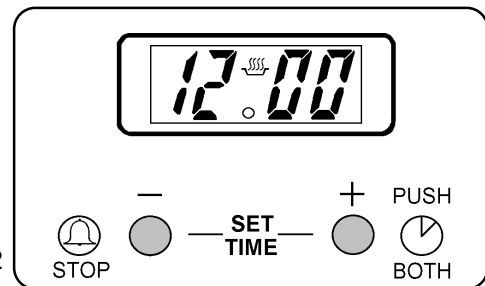

Fig. 3
Within five seconds, press and hold either button (1) to decrease or button (2) to increase the time until the correct time of day on the 24 hour clock is reached, e.g. 14:30. The cooking symbol (☹) will go out. See Fig. 3.